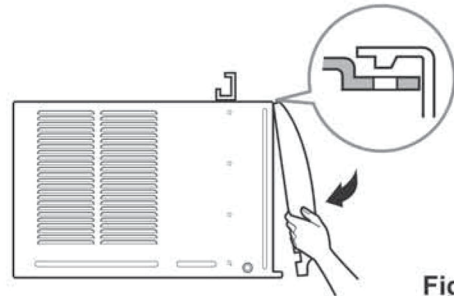

Fig. 11
14. Attach the front grille to the cabinet by inserting the tabs on the grille into the tabs on the front of the cabinet. Push the grille in until it snaps into place. (Fig. 11)